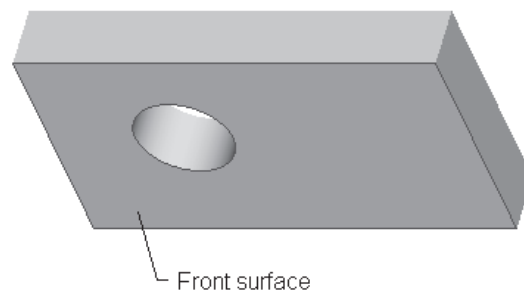

Figure 5-35 Front planar surface selected to be at the bottom
- Select the **Bottom** option from this submenu and choose the front surface of the base feature shown in Figure 5-35.